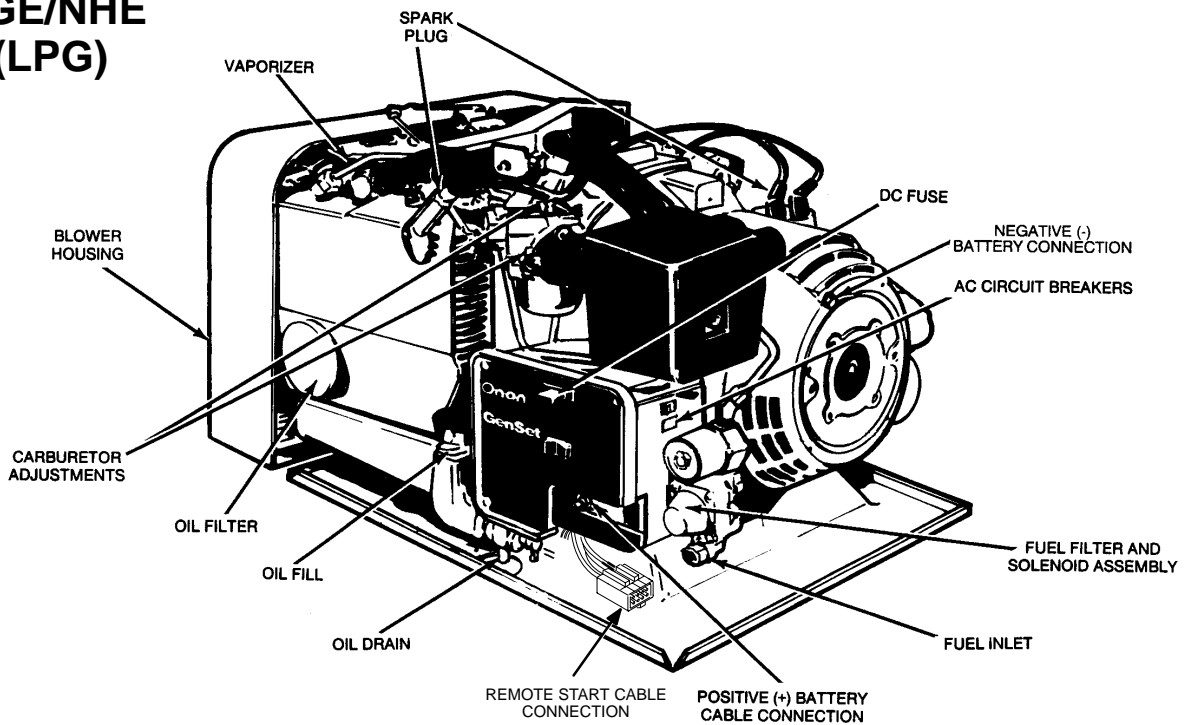

FIGURE S-1. TYPICAL EMERALD GENERATOR SETS
2. On **Page 2-2** replace Figure 2-1 with Figure S-1 on Page S-2 of this supplement.